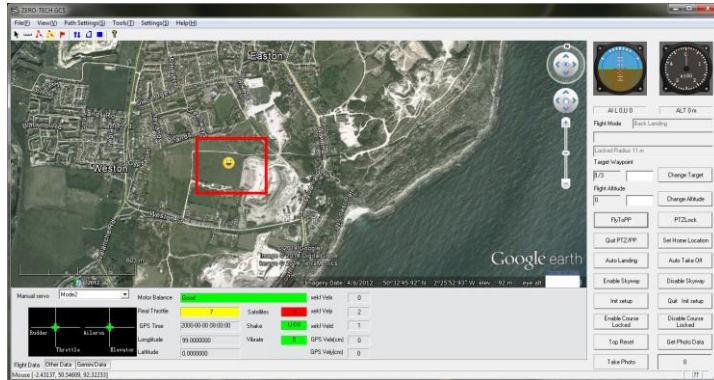

Figure 55
2. Open the ground station and select “File”→“Open Wi-Fi”, a yellow smiley will display on the map, as shown in Figure 55: a purple star is beneath the yellow smiley.